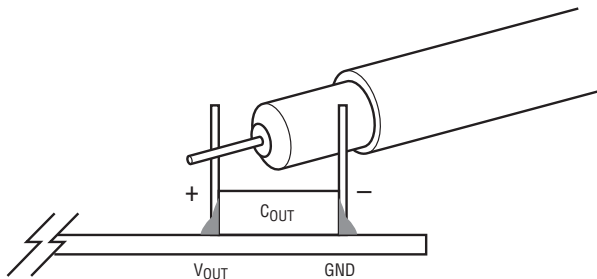

Figure 2. Measuring Output Voltage Ripple
**Note:** When measuring the output or input voltage ripple, do not use the long ground lead on the oscilloscope probe. See Figure 2 for the proper scope probe technique. Short, stiff leads need to be soldered to the (+) and (-) terminals of an output capacitor. The probe's ground ring needs to touch the (-) lead and the probe tip needs to touch the (+) lead.